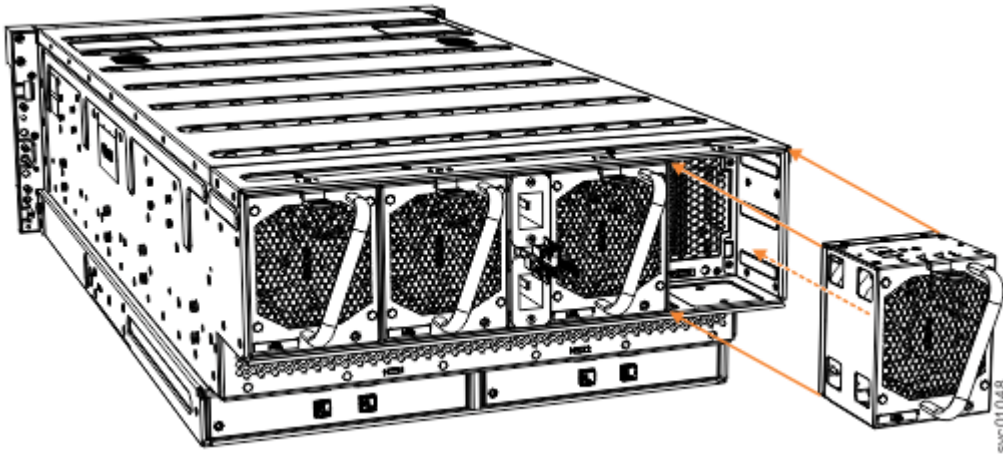

Figure 91. Replace fan module
2. Carefully insert the fan module into the chassis until it clicks in place, as shown in Figure 91 on page 79.